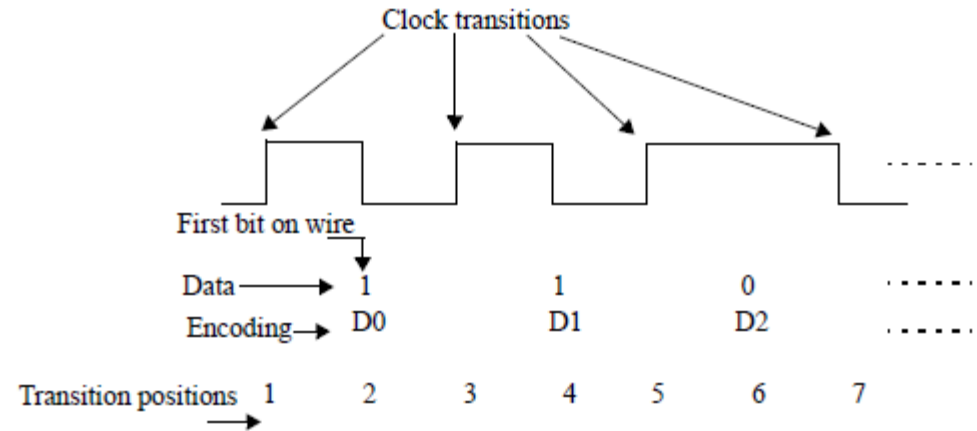

Figure 98-4—Data bit encoding within DME pages
- 5B data is serialized LSB first and encoded using DME as in figure 98-4 and 98-5 of 802.3bp with the exception of timings